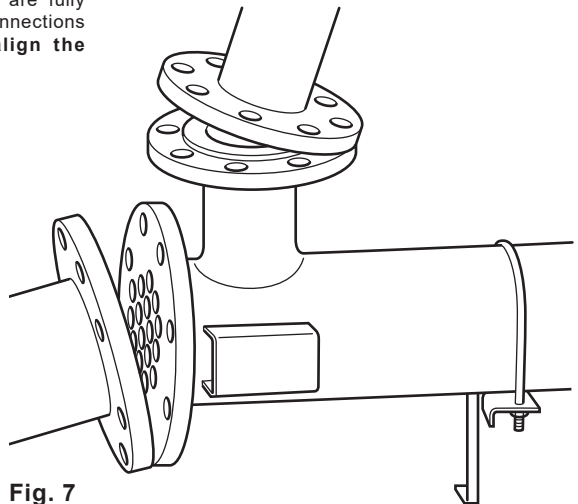

Fig. 7
4.8 Ensure that heat exchangers are suitably situated on a level surface and are fully aligned to any adjoining pipe connections (Figure 7). **Do not forcibly align the connections!**